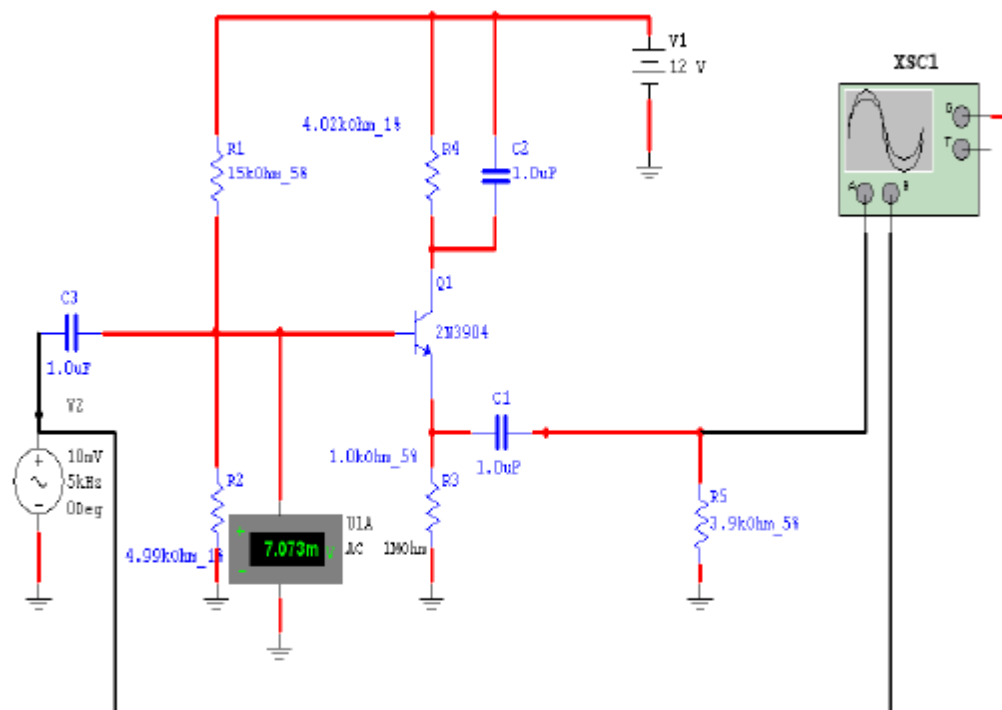

Fig.16 Common Collector (CC) Amplifier
- Construct the circuit shown in Fig.16; with the above presented components.